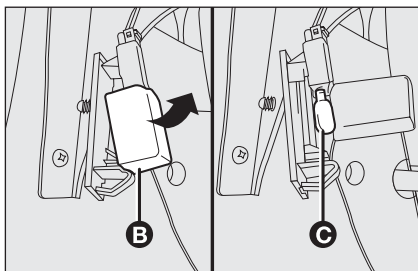

fig. 44
- open the bulb cover **B**-fig. 44 and replace the pressure-fitted bulb **C**;